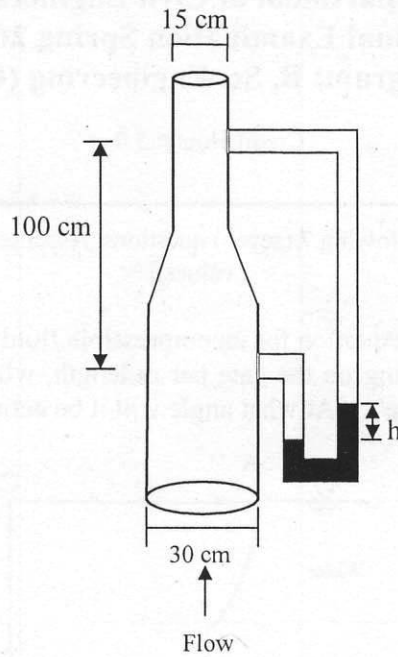

Figure 3
- 2.(a) Water flows in a tapered pipe as shown in Figure 3. Determine the magnitude of deflection "h" of differential mercury manometer corresponding to a discharge of $0.150 \text{ m}^3/\text{s}$. The friction in the pipe may be neglected and specific gravity of mercury is 13.6. (7)